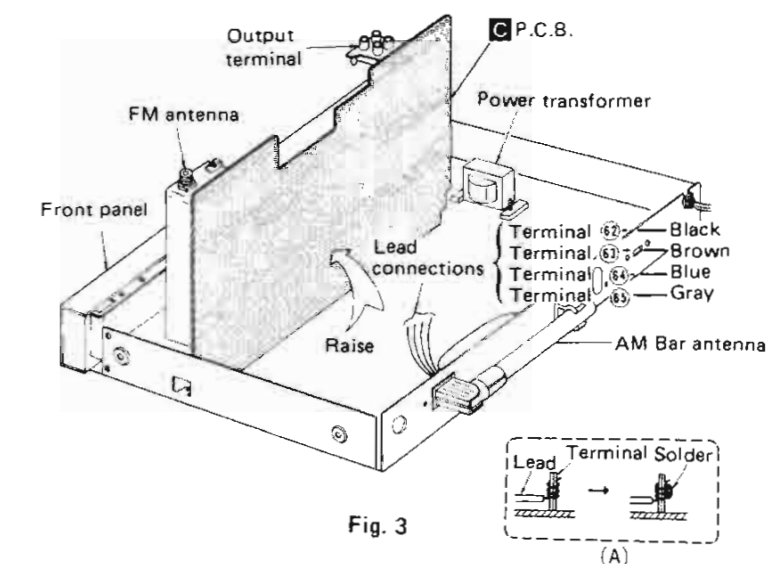

Fig. 3
6. When checking the printed circuit board, raise the printed circuit board as shown in Fig. 3.
2. When connecting the leads after checking the printed circuit board, wind each lead around the terminal and solder as shown in Fig. 3 (A).